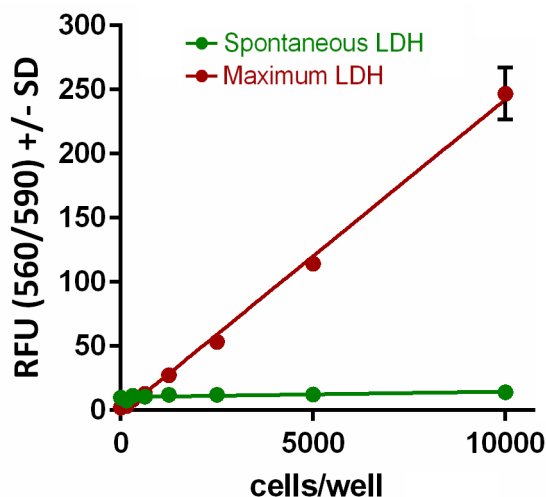

Figure 2 Graph of LDH activity vs. A549 cell number
12. Plot the Maximum LDH Release Control fluorescence value and the Spontaneous LDH Release Control fluorescence value versus cell number to determine the linear range of the LDH cytotoxicity assay and the optimal number of cells (Figure 2).